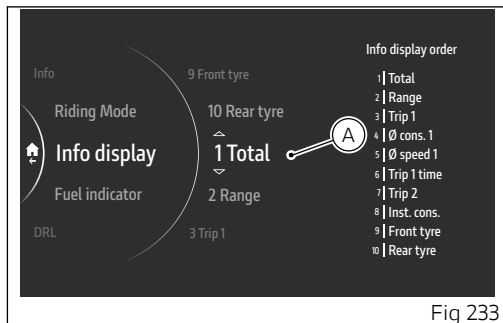

Fig 233
- Two arrows (A, Fig 233), are displayed above and below the position number indicating that it can be changed from 1 to 10 (in this example "3") using the corresponding joystick positions ▲ ▼.